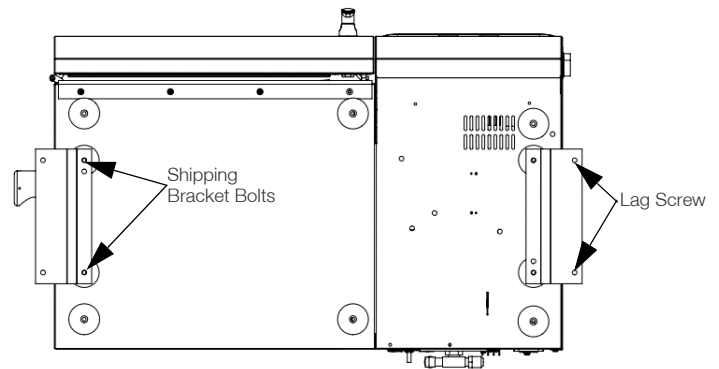

Figure 1. Bottom view of the unit
Using a 7/16" wrench or socket, remove the (4) lag screws attached to the shipping pallet. Remove the (4) 1/4-20 bolts to detach the (2) shipping brackets from the bottom of the unit. Refer to the **Figure 1** below.